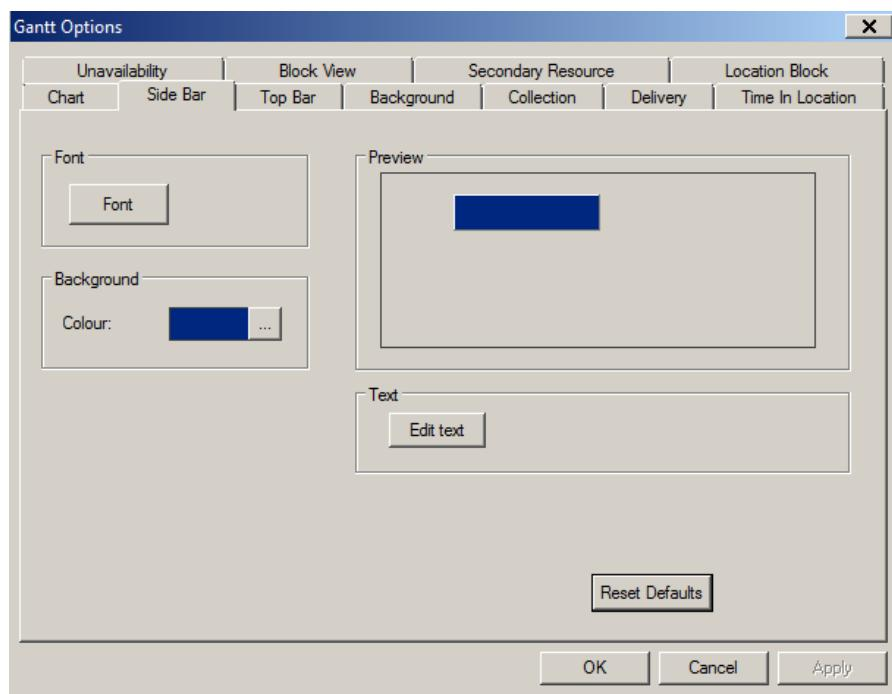

Figure 185
2. Click **Font** (Figure 185)
2. Click Edit Text (Figure 185)
7. Click **OK** to confirm the changes and return back to the **Side Bar** options window(**Figure 185**)
8. Alternatively, Click **Cancel** to cancel the changes and return back to the **Side Bar** options window(**Figure 185**)
1. From the **Side Bar Options Window** (Figure 185)
2. Click  to confirm the changes and return back to the Side Bar options window(Figure 185)